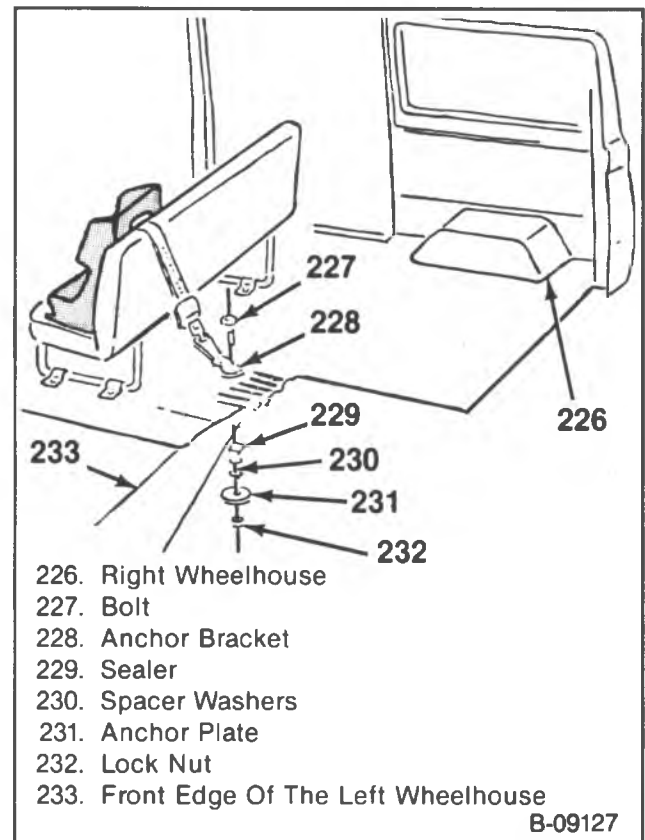

Figure 45 — Second Seat Top Strap Components — Left Position
1. Determine the location for the anchor by measuring 76 mm (3-inches) rearward from the front edge of the left wheelhouse. Measure 60 mm (2 3/8-inches) inboard from the left wheelhouse. Mark the position on top of the rib where these measurements meet (figure 45).